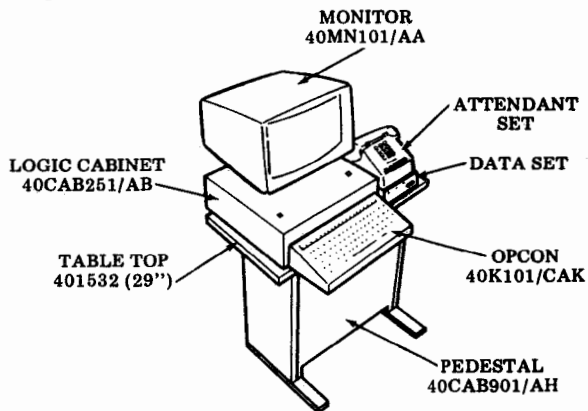

Fig. 3
3.02 Keyboard Display (KD) Station (Fig. 3)